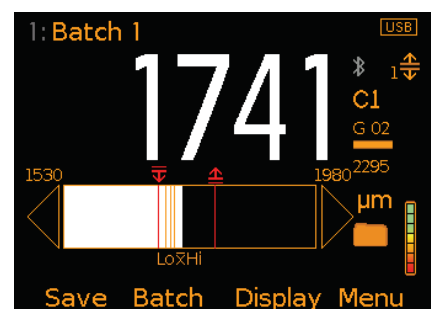

Figure 9: Readings & Bar Graph
- **Bar Graph - Model T (Figure 9)**; An analogue representation of the current measurement value together with the highest (Hi), lowest (Lo) and average (\bar{x}) reading. The graph is updated automatically when each reading is taken.